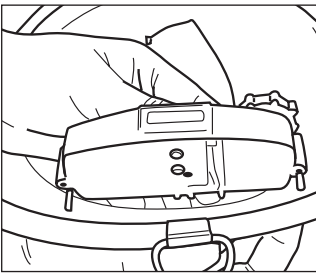

Figure 6
- Align the battery unit with the screws (Figure 6).